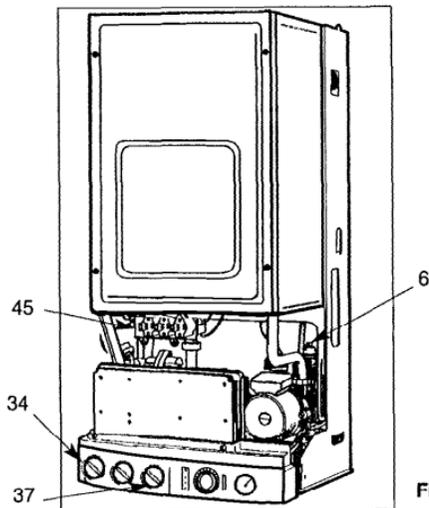

Fig. 16
- Open the automatic air vent (6 fig. 16)
- Turn selector switch (34 fig. 16) to heating only or heating and hot water position.
- Connect gas pressure gauge to test point ( 45 fig. 16).
- Turn selector switch ( 34 fig. 16) to heating only position.
- Turn the heating flow temperature adjustment to maximum (37 fig. 16).